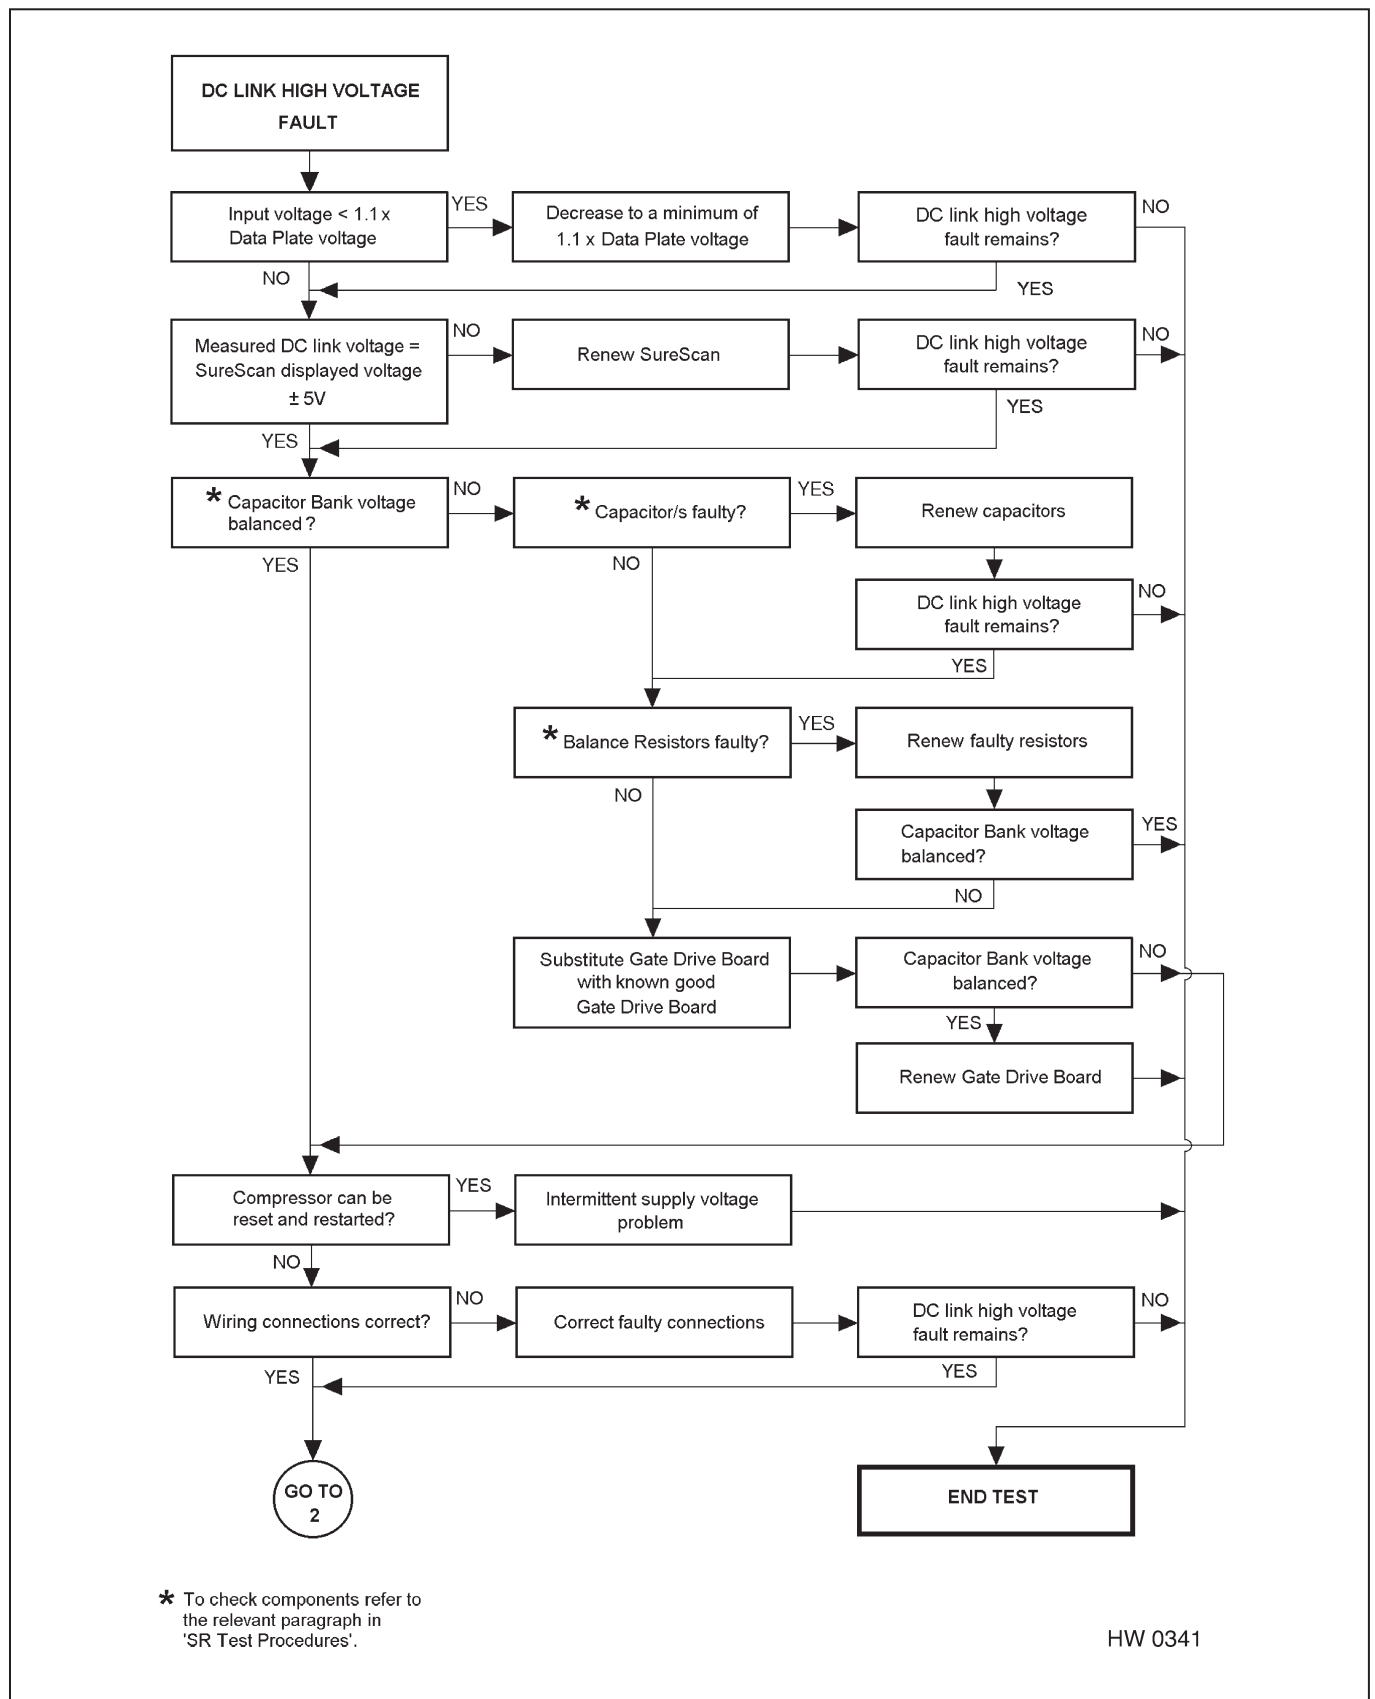

Fig. 4.10 - Link High Voltage Fault (1 of 2)
4.8.4 DC Link High Voltage Fault (figs. 4.10, 4.11)
- b) Refer to the flow chart in figs. 4.10 and 4.11 for the fault finding procedure.